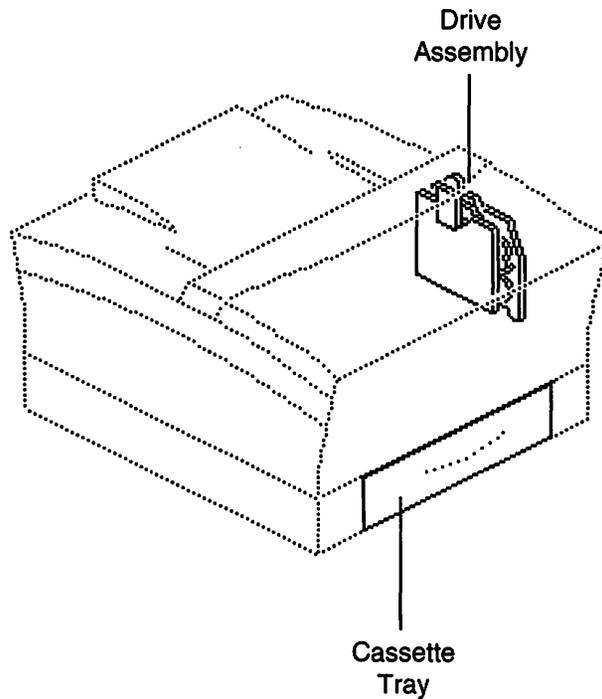

Figure 1-7
- The drive assembly transfers main motor operation to the rest of the printer (see Figure 1-7). The drive assembly includes the main motor and the drive transfer gears.
- The cassette tray holds up to 250 sheets of paper for automatic paper feed (see Figure 1-7).